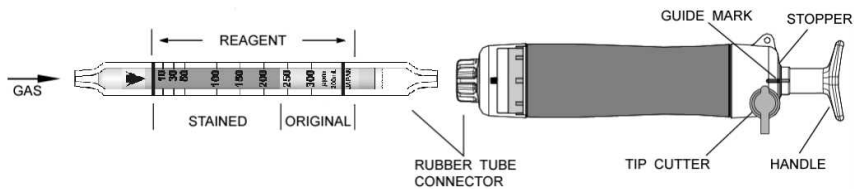

Fig.1
- ① Break both ends of the detector tube.
- ② Insert the detector tube into the aspirating pump securely as shown in Fig.1. (Arrow mark shall point to the pump.)
- ③ Align the guide marks on the shaft and stopper of the aspirating pump.
- ④ Pull the pump handle at a full stroke until it locks and wait for 1.5 minutes or until the completion of sampling is confirmed with the flow indicator of the pump (See descriptions about the flow indicator in the instruction manual of the pump).
- ⑤ Turn the pump handle right or left by 1/4 (90°), push back the handle without removing the detector tube from the pump. Then repeat the steps ③~④ once more.
- ⑥ On completion of sampling, read the scale at the maximum point of the stained layer.
- ⑦ When the concentration is below the scale range, 4 pump strokes can be used to determine concentrations of 4 to 120 ppm.